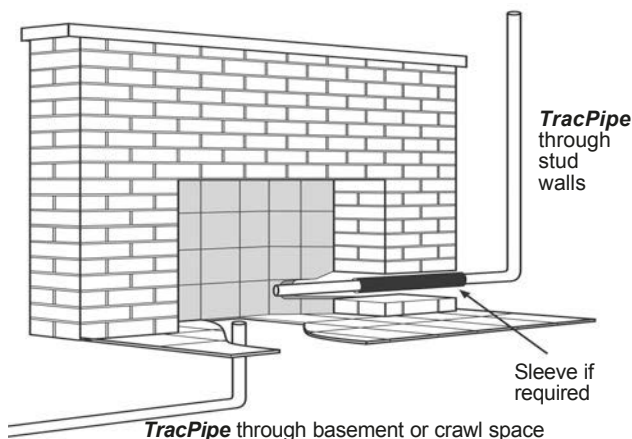

Figure: 4-22
1. **TracPipe**® may be used to deliver gas directly to the valve for a gas fireplace. This is approved for decorative and heat generating fireplaces and for gas logs used in masonry and pre-fabricated fireplaces. DO NOT use **TracPipe**® to connect gas log lighters or gas wands for use in all-fuel (woodburning) fireplaces. See Figure: 4-22).